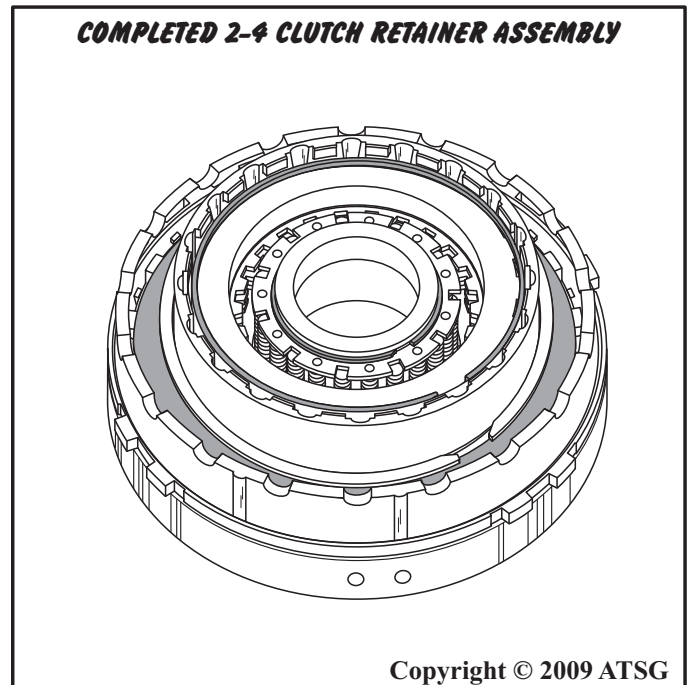

Figure 67
19. Set the completed 2-4 retainer assembly aside for final assembly (See Figure 67).